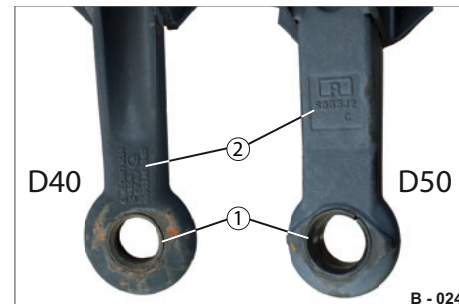

Fig. 9 Lubricating towing eyes/wear inspection
- Lubricate the wear bushing (Fig. 9/1) and the rounded area of the towing eye (Fig. 9/2) with long-term high pressure lubricant.